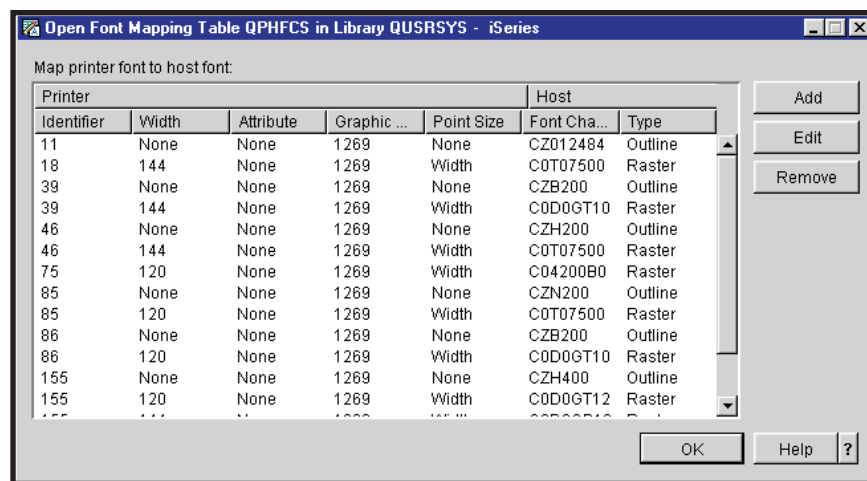

Figure 137. Open Font Mapping Table Window
6. Double-click the table you want to view. Figure 137 shows the user-defined HPFCS table.